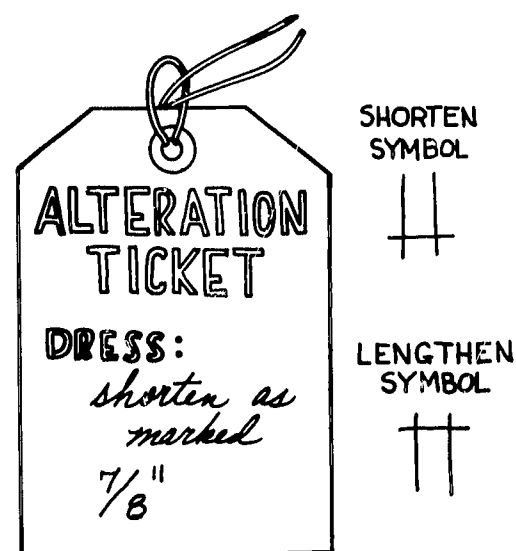

Figure 8.
1. Check the information on the tag with the markings on the garment (see Figure 8).